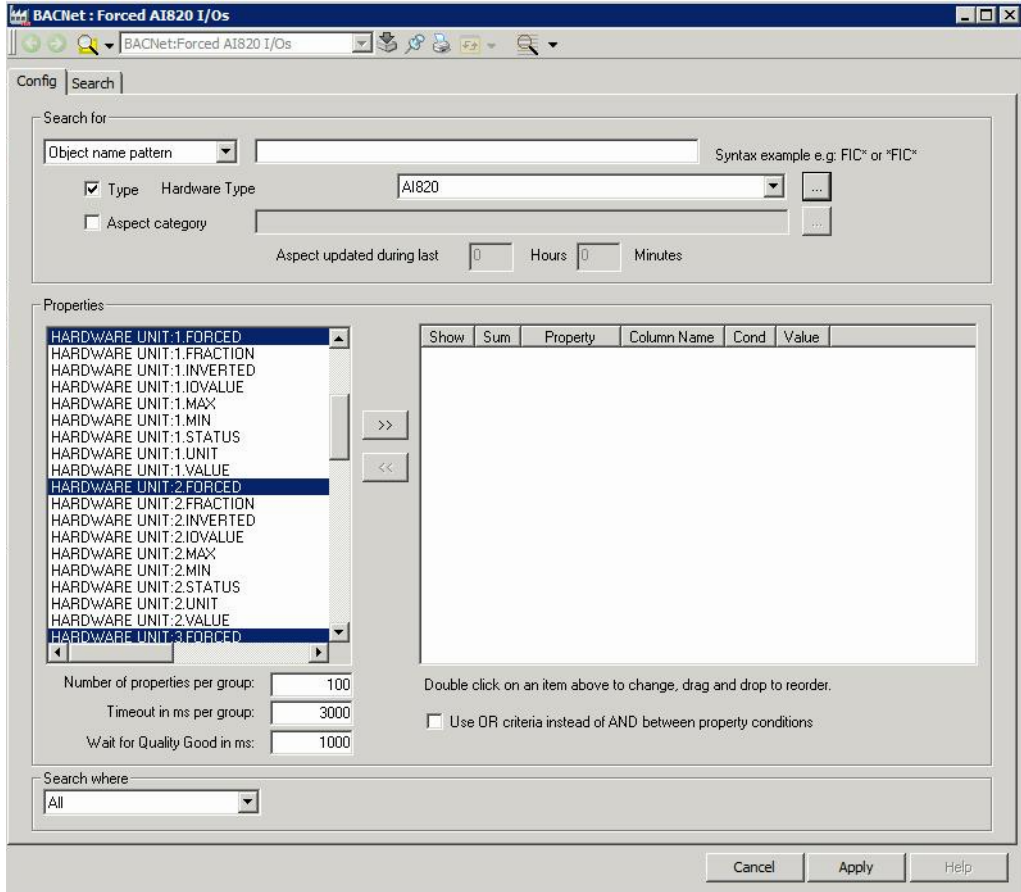

Figure 6. Select Forced Parameters
- In the Properties window, select the Forced parameters, use the >> button to select the Forced parameters for presentation as shown in Figure 6.